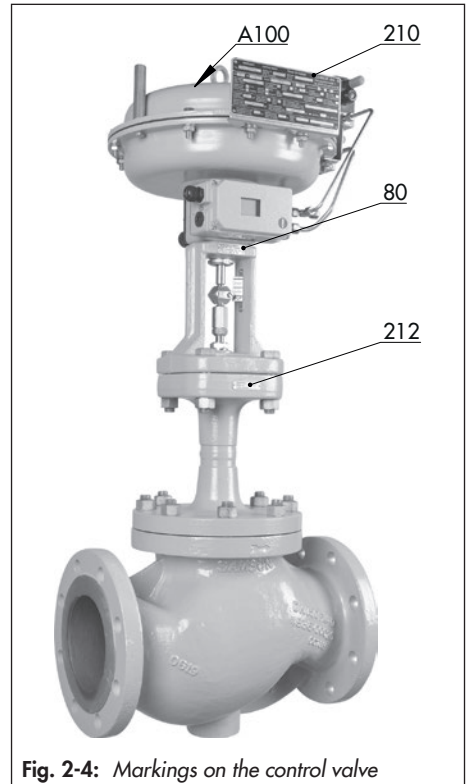

Fig. 2-4: Markings on the control valve
The nameplate for the gas version (210) is affixed to the actuator (see Fig. 2-4).
The valve nameplate (80) is affixed to the flange (see Fig. 2-4).
The actuator nameplate (A100) is stuck on the diaphragm casing (see Fig. 2-4).
The plate with the DVGW register number (212) is affixed to the bellows seal (see Fig. 2-4).